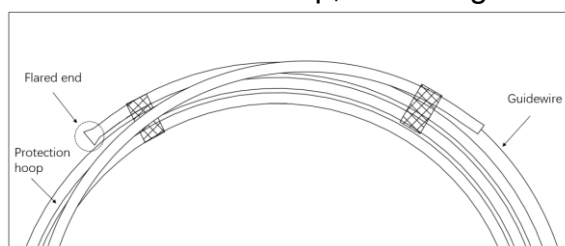

Fig. 1
- 2.2 Before pulling the guidewire out of the protecting hoop, flush it with heparinized saline from the flared end of the protecting hoop to hydrate the guidewire at least for 30 seconds (Fig. 1). If it is difficult to pull the guidewire out from the hoop, flush it again with heparinized saline.